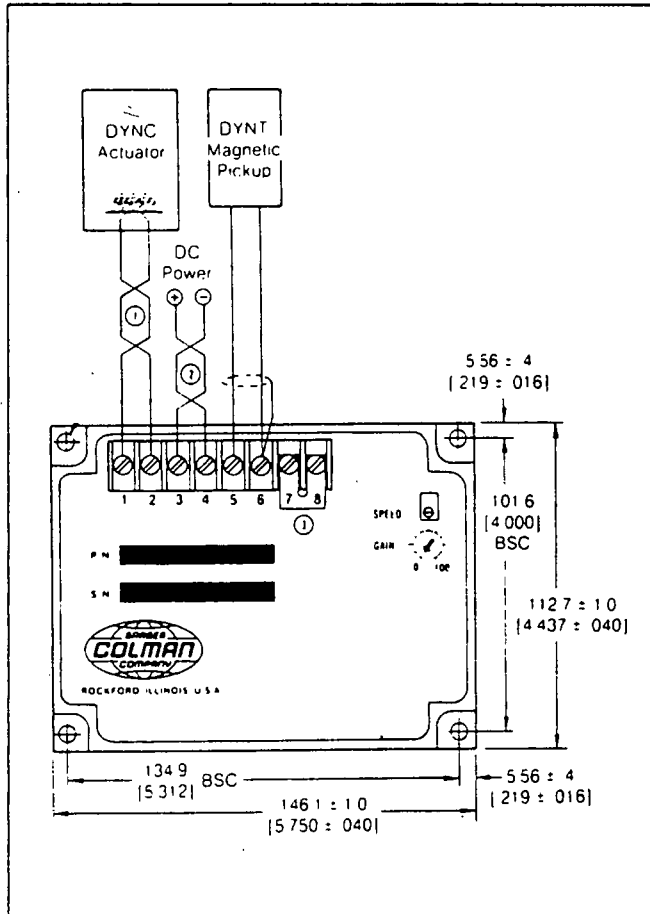
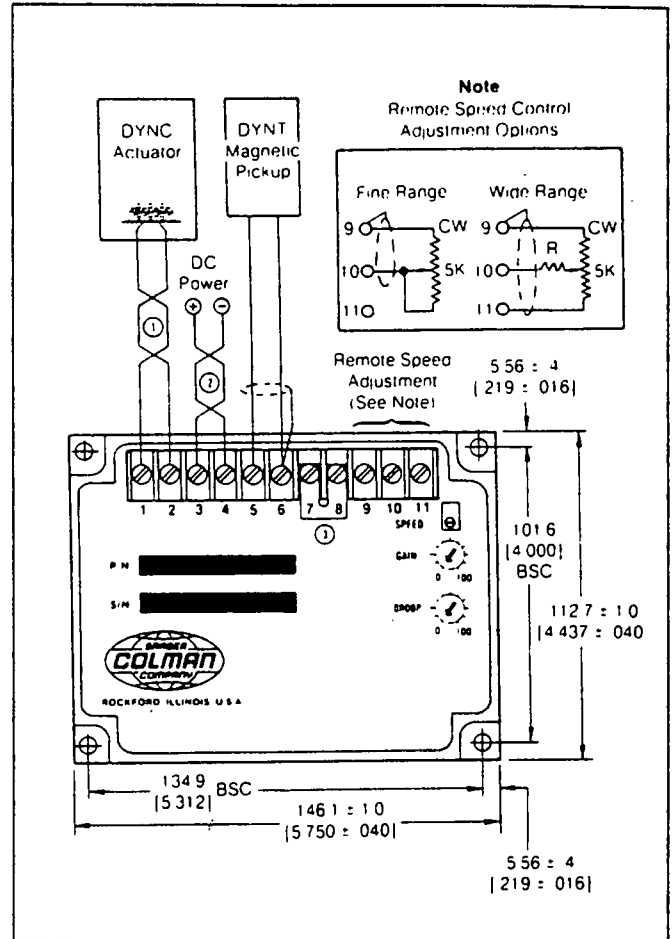

Figure 4. Typical System Without Droop Adjustment
Figure 5. System with Droop Adjustment
*NOTE: Droop operation is not available on systems equipped with the controller shown in Figure 4 (no droop adjustment). The controller shown in Figure 5, however, will provide droop operation.*
- A. See Figure 4. Prior to starting the engine, complete the following adjustments:
A. See Figure 5. Prior to starting the engine, set the controller potentiometers as follows: